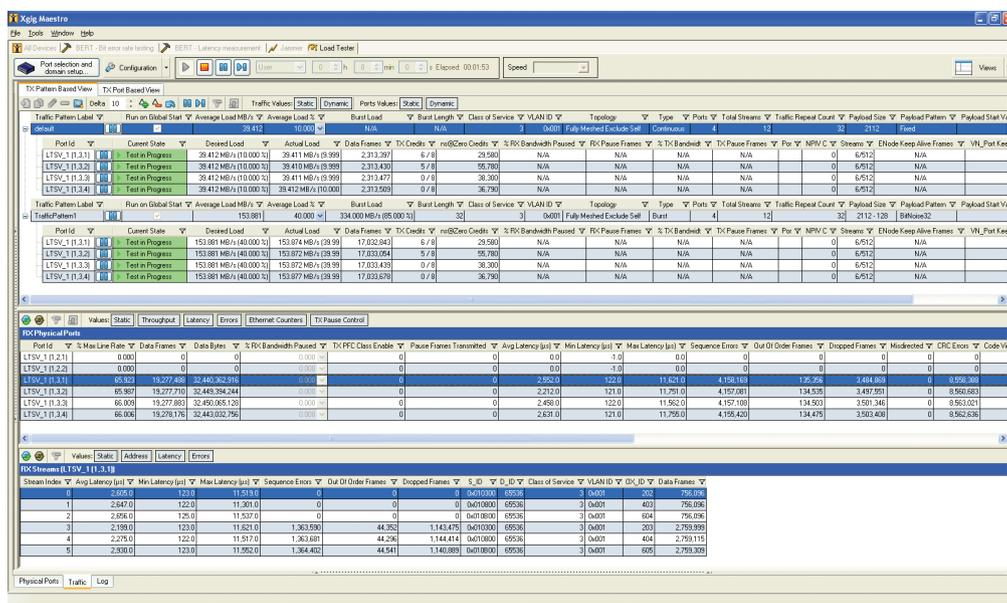

Figure 3: RX and TX Traffic Views
Traffic statistics provide developers with key insights into how well an FCoE switch is performing and whether any performance impairments or issues are pending. The Xgig FCoE Load Tester monitors both received (RX) traffic and transmitted (TX) traffic (see Figure 3).